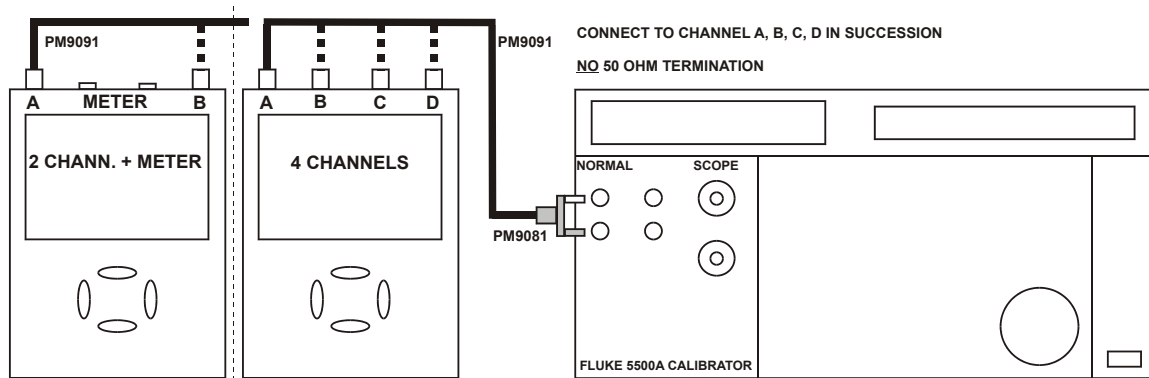

Figure 4-3. Test Tool Inputs A, B, C, D (A, B) to 5500A Normal Output
1. Connect the Test Tool to the 5500A as shown in Figure 4-3. The vertical channels A, B, C and D (A and B) are checked in succession so that there is one waveform on the screen at a time to facilitate amplitude adjustment.